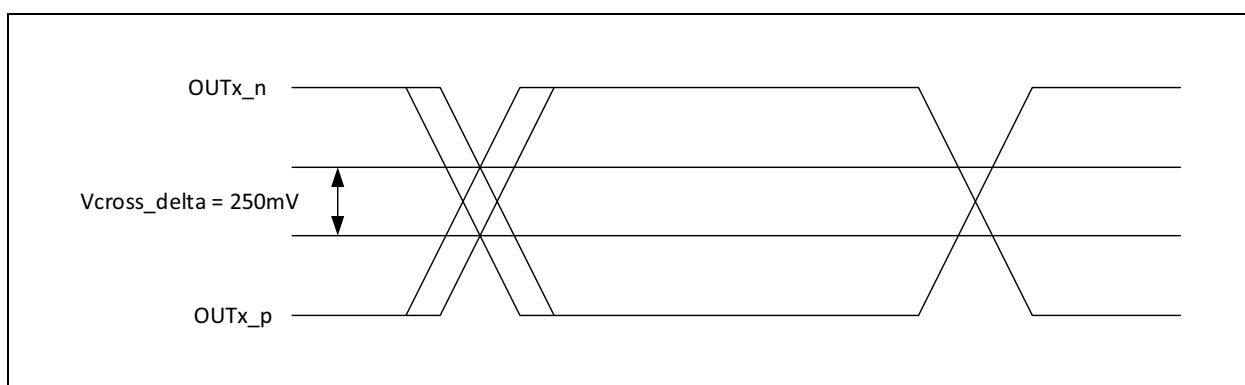

FIGURE 4-2: Single-Ended Measurement Points for Delta Cross Point.
- 9:** Defined as the total variation of all crossing voltages of Rising CK and Falling CK#. This is the maximum allowed variance in VCROSS for any particular system. See Figure 4-2.